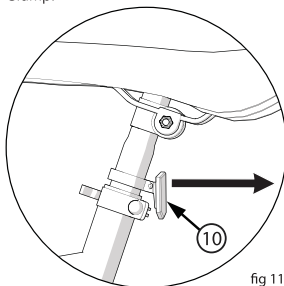

fig 11
1. Position REAR Reflector (10) so it points straight backward (fig 11).